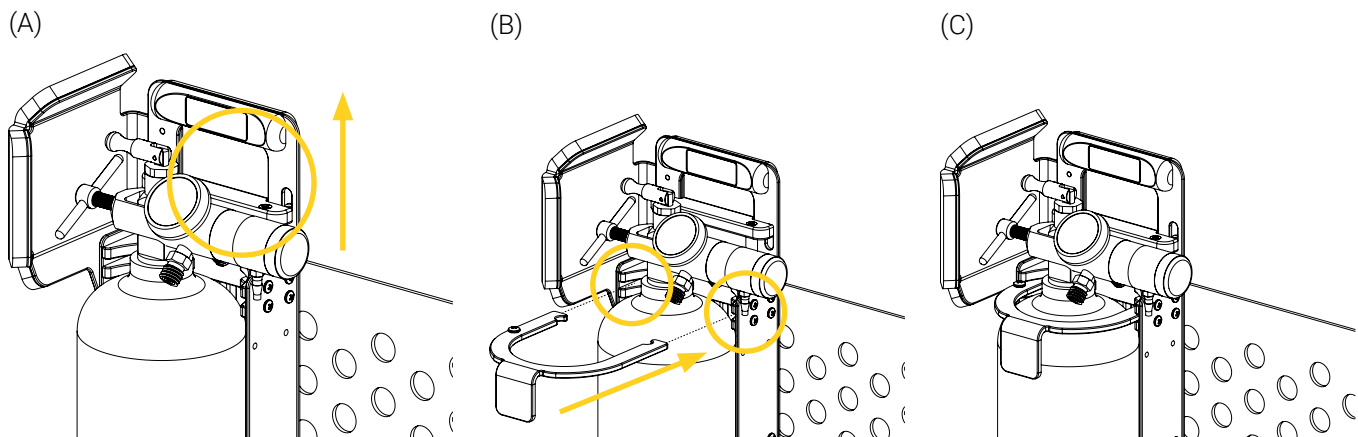

Figure 8: Securing the gas cylinder in the gas cylinder holder
6. Pull and hold the quick release pull handle to deactivate the locking mechanism (Figure 8 A), insert the u-clamp in the u-clamp retainers (Figure 8 B), then let go of the quick release pull handle to activate the locking mechanism (Figure 8 C).